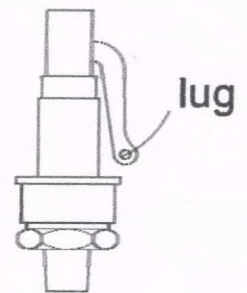

Fig2
- ◇ An ordinary lift safety valve connected to the jacket is installed at the top of the sterilizer. It cannot open to release overpressure steam until the steam in jacket overpasses set pressure of safety valve. When steam pressure falls to the normal value, it automatically closes. The set pressure for safety valve is $0.165\text{MPa}\sim 0.17\text{MPa}$ (See Fig2)